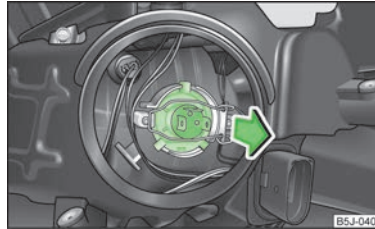

Fig. 144 Removing bulbs for low and main beam
- Remove the connector on the bulb, unlock the circlip, and remove the light bulb » Fig. 144.